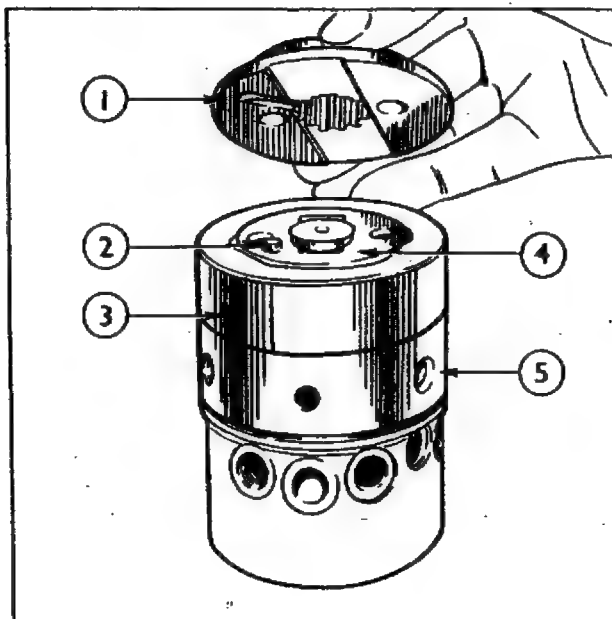

Fig. 79 1 Drive Plate 4 Stop Plate
32. Remove the drive end stop plate and extract the locating dowel from the pumping element rotor. (see Fig. 79). Withdraw the rollers and shoes keeping them in their respective positions. Retain the twin pumping plungers in positions with corks.